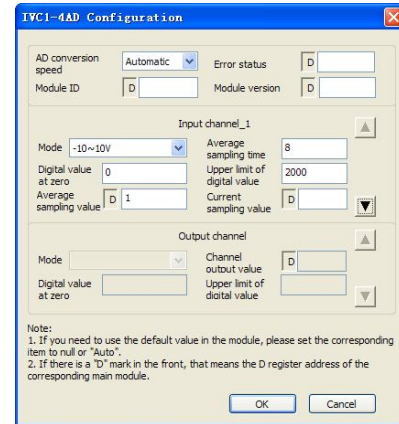

Figure 4-2 CH1 setting interface
IVC1-4AD exchanges data with the basic module through Buffer Memory (BFM). After IVC1-4AD is set through the host software, the basic module will write data into IVC1-4AD BFM to set the state of IVC1-4AD, and display the data from IVC1-4AD on the host software interface. See figures 4-2 ~ 4-6.
8. BFM#4094: module software version, displayed automatically as **Module Version in IVC1-4AD Configuration** dialogue box of the host software, as shown in Figure 4-2.